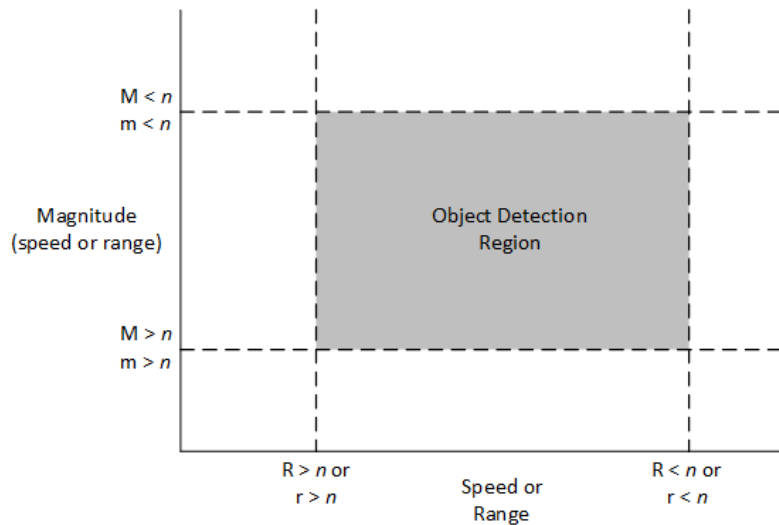

Figure 8. Speed, Range and Magnitude Filtering
**Simple Object Detection Interrupt** – a simple output which trips if an object in motion or object in range is detected. The signal is toggled on the interrupt pin (pin 3, J8 on OPS242; pin 6, J5 OPS241; pin 3, J3 on OPS243). For the Doppler (-A, -C) radar sensors, the pin is high when no motion is present and low when motion is detected. For the FMCW (-B, -C) radar sensors, the pin is high when no object is in the detected region and set low when an object is detected in the detection region. For Doppler (-A, -C) radar sensors the interrupt can be filtered on speed ( $R > n$ ,  $R < n$ ), signal magnitude ( $M > n$ ,  $M < n$ ), and direction ( $R+$ ,  $R-$ ,  $R|$ ). For FMCW (-B, -C) radar sensors, the interrupt can be filtered on range ( $r > n$ ,  $r < n$ ) and signal magnitude ( $m > n$ ,  $m < n$ ). Figure 8 shows how filtering can allow detection for certain objects and mask out others.